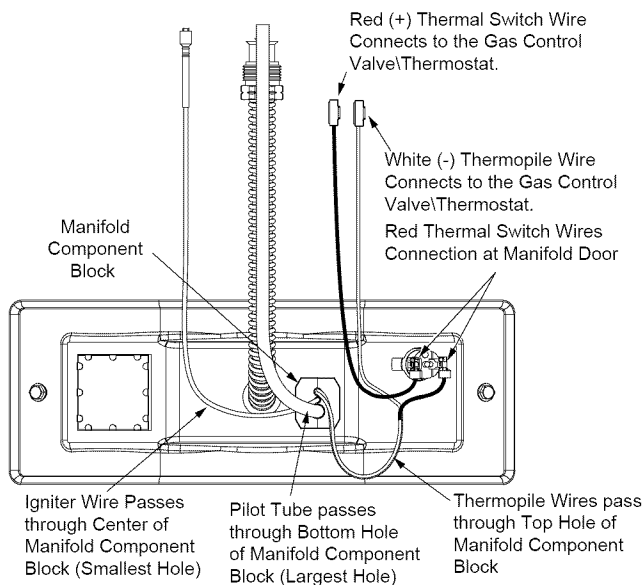

FIGURE 38.
7. Route the new pilot tube, new igniter wire and new thermopile wire through the opening in the manifold door (Figure 38).
9. Reinstall the manifold component block in the manifold door (Figure 38).
7. Connect the white (-) thermopile wire to the gas control valve/thermostat. Then connect the red thermal switch wires to the thermal switch on the on the manifold door. (Figure 38).